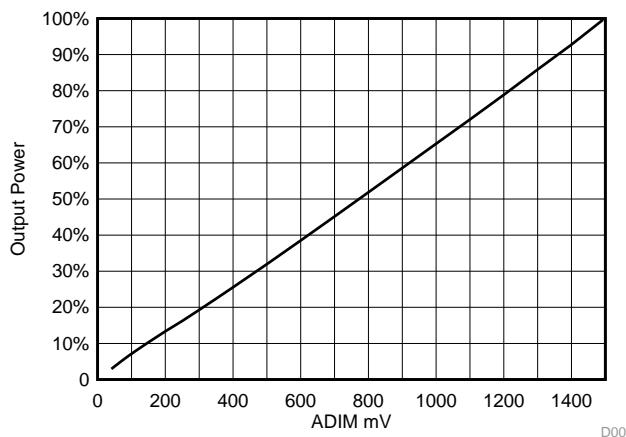

図 21. Output Power versus ADIM Voltage (3% to 100%)
- Updated 図 21 with correct x-axis label..... 17